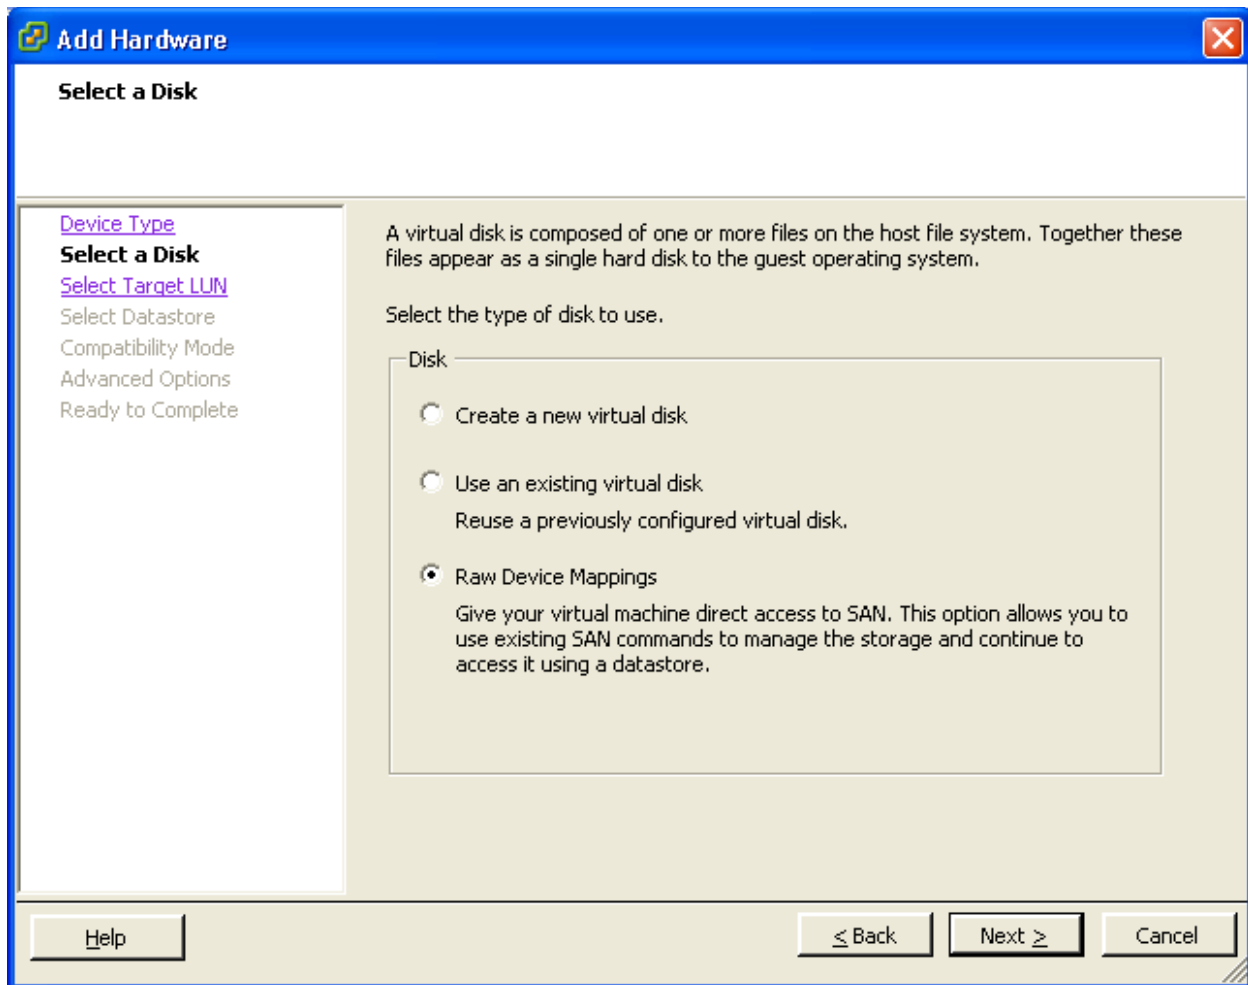

Figure 11 – Guest OS Configuration
8. Select “Raw Device Mapping” and click next; see Figure 11.